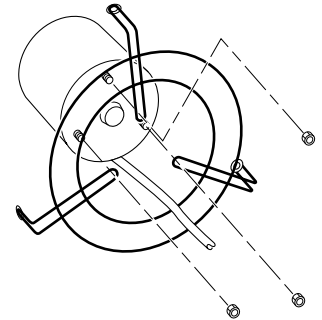

Figure 9 - Removing or Attaching Fan Guard from Motor
5. Remove three nuts that attach fan guard to motor using nut-driver. Remove fan guard from motor (see Figure 9).
7. Attach fan guard to new motor with three nuts. When attaching fan guard to motor, you must position power cord as shown in Figure 9. Tighten nuts firmly.